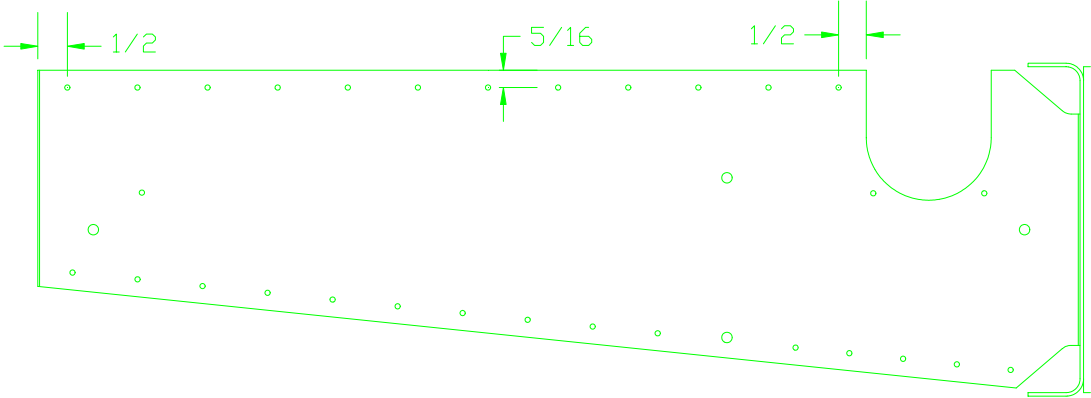

FIGURE 13
- 18) Drill #40 holes along the top of the two inboard FUS-325 shear webs. Figure 13.